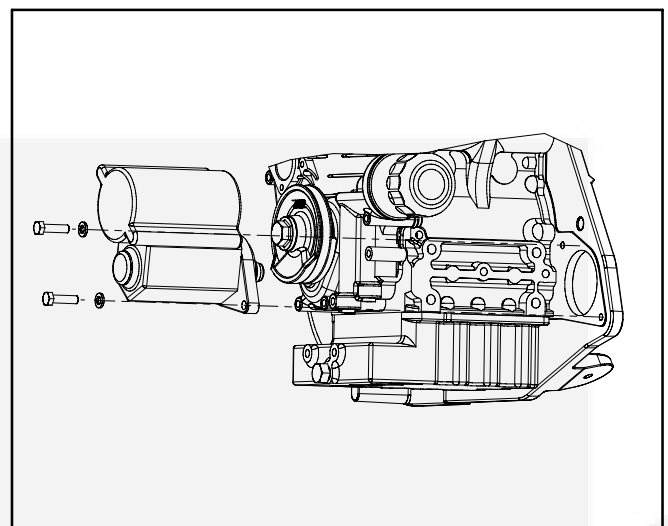

FIGURE 8-12. STARTER MOTOR
**Starter Removal and Replacement:** The starter motor (Figure 8-12) is accessible for removal and installation through the access opening in the the base pan. Parts are available for rebuilding the starter. Torque the mounting screws to 29 lb-ft (39 N-m). Make sure starter B+ is connected to gen-set B+.